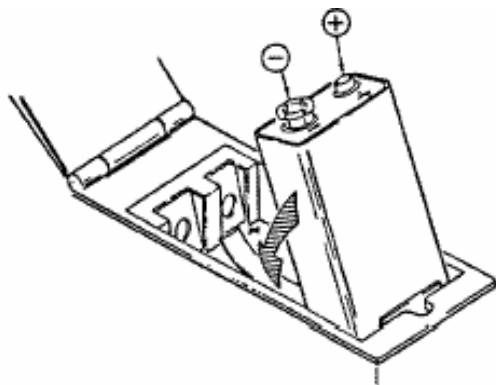

FIGURE 3-8. Helmet Harness Battery Installation
3. With the electrical contacts aligned as shown in Figure 3-8, securely place a 9 volt alkaline battery (type BA3090/U) into the compartment. Polarity of the contacts is required.